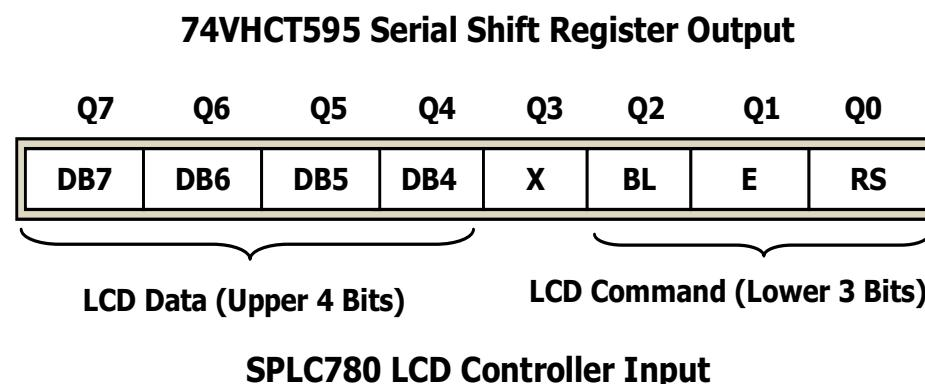

Figure 8.23 8-bit serial data configuration to be transmitted to LCD Controller.
- Each **SSI2** serial data output is an 8-bit serial data sequence transmitted from the **SSI2 Data Register (SSIDR)** to the **SSI2Tx** pin via **TxFIFO**. Each 8-bit data should contains LCD data (upper 4-bit **DB7 ~ DB7**) and LCD commands (lower 3-bit **RS, E** and **BL**). Figure 8.23 shows an 8-bit serial data configuration that is sent to the **SSI2Tx** pin and transmitted to the **DS** serial input on **74VHCT595**.